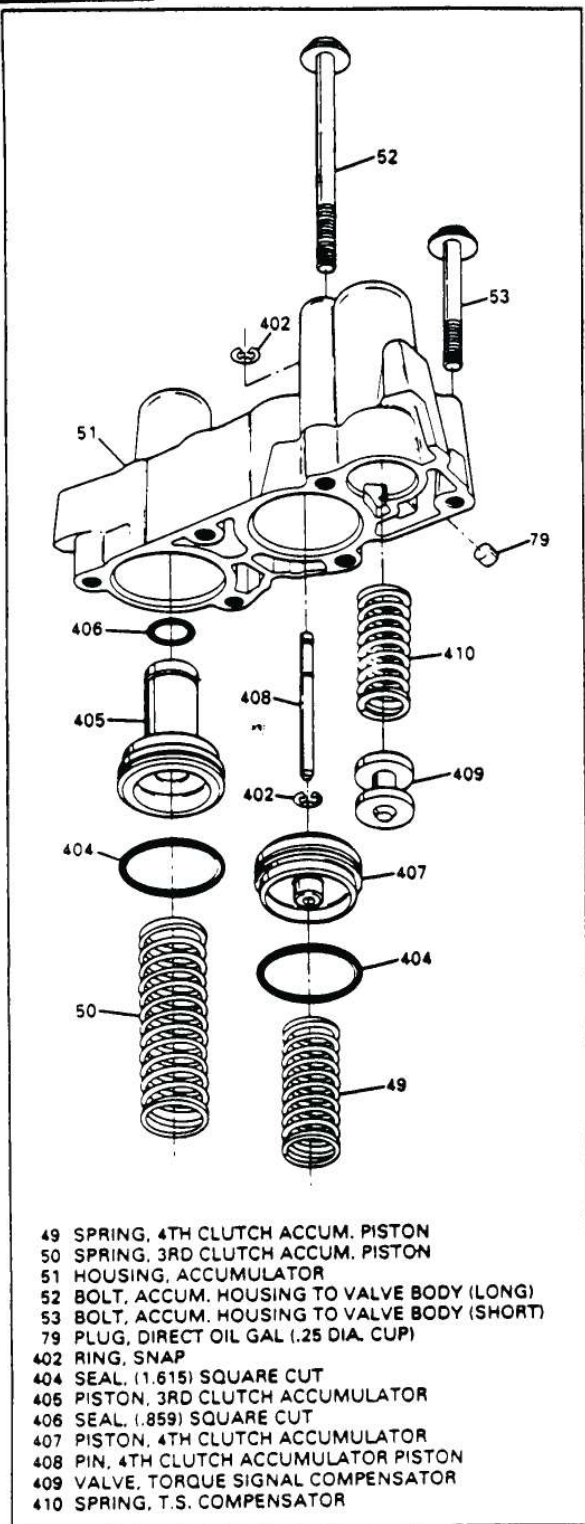

Figure 119
1. Assemble the accumulator housing components exactly as shown in Figure 119.
2. Notice the positions of the springs, valve, and pistons (See Figure 119).